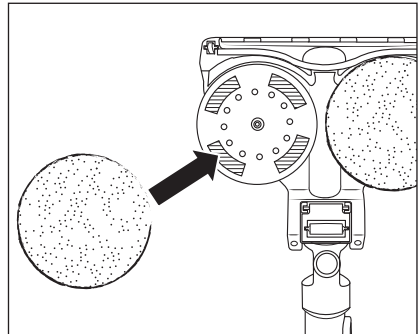

Fig. 17
- ◆ To fit a mop pad **34** to the mop attachment **31**, place it centrally on one of the two rotating plates on the underside of the mop attachment **31** (see Fig. 17). Then press it firmly onto the hook and loop strips of the rotating plate.